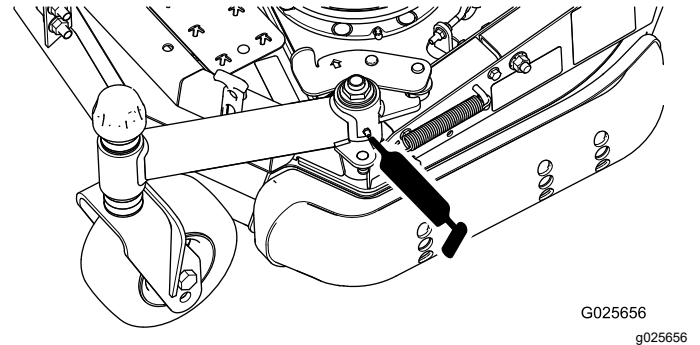

Figure 17
- Folding caster arm pivot (1) (Figure 17)